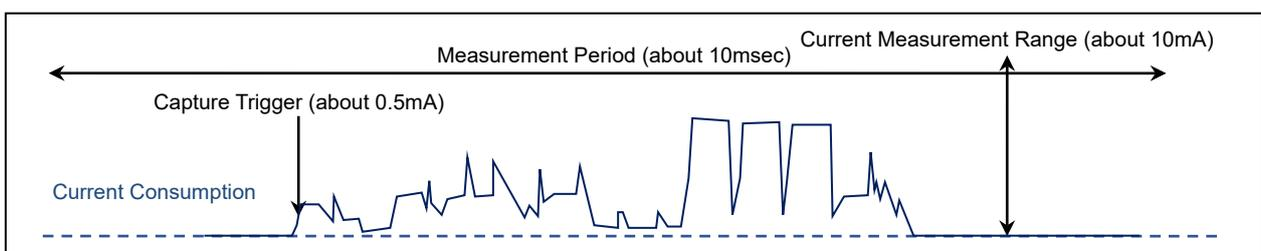

Figure 4-6 Measuring Current Consumption in Periodic Packet Transmission
2. Set below settings to Oscilloscope by referring to **Figure 4-6**.